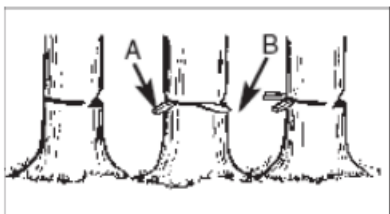

Fig 10c
Use wooden or plastic wedges (A) to prevent the blade or chain (B) from getting stuck in the cut. Wedges also help control the fall (Fig. 10c)